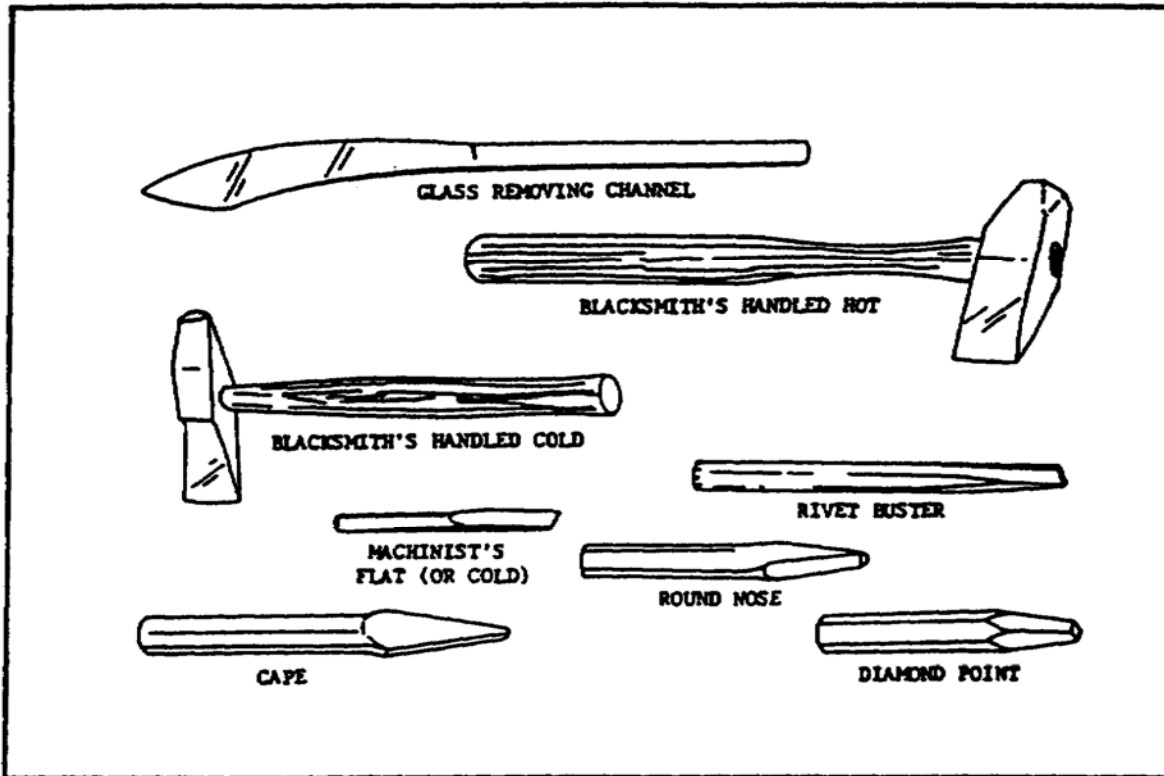

FIGURE 81. MACHINIST'S AND BLACKSMITH'S CHISELS.
(a) *Flat or Cold Chisels.* Flat or cold chisels (figure 81) are made of a good grade of steel with a hardened cutting edge on one end and rounded off at the other end. The flat or cold chisel is made in sizes from a 1/4 inch cutting edge up.
(b) *Diamond Point Chisel.* The machinist's diamond point chisel (figure 81) has a solid point and is used to cut V-grooves, for drawing holes, and for cutting holes in flat stock.
(c) *Cape Chisel.* The machinist's cape chisel (figure 81) has a point which is smaller than that of a diamond point chisel. It is used to cut keyways or slots in metal, and also for dividing up work so that a flat chisel can be used for finishing.
(d) *Roundnose Chisel.* The roundnose chisel (figure 81) has its cutting edge ground at an angle of 60° with the axis of the chisel. When roundnose chisels are used to bring drilled holes, just started, concentric with the laid out drilling circles, they are called center chisels. The roundnose chisel is also used for cutting channels, such as oil grooves and similar work. Roundnose chisels are of similar shape to the cape chisel, with one edge ground flat, and the other edge making a round cutting edge. The stock of these chisels is usually octagonal (eight sided) in shape.
(a) *Handled Cold Chisel*. The blacksmith's handled cold chisel (figure 81) is used to cut or chip cold metal on an anvil. These chisels are supplied in two sizes, one with a 1 3/8 inch cutting edge, the other with a 1 3/4 inch cutting edge. The length of the chisel is about five inches. It is provided with a wooden handle.
(b) *Handled Hot Chisels*. The blacksmith's handled hot chisel (figure 81) is used only when hot metal is to be cut. It has a wood handle long enough to keep the hands at a safe distance from the hot metal, and to provide a firm grip, because a heavy hammer or sledge is used to strike the chisel. This chisel is heavier and more rugged than the handled cold chisel.
(5) *Rivet Buster Chisel*. A rivet buster chisel (figure 81) is 9 inches long and has a 3/4 inch cutting edge. It is designed to reach chassis rivets and those in other difficult places that other chisels cannot reach.
(6) *Glass Removing Channel Chisel*. The glass removing channel chisel (figure 81) is 15 1/2 inches long with a curved blade. It is used to cut away hard putty from around glass and to separate glass from its frame channel.